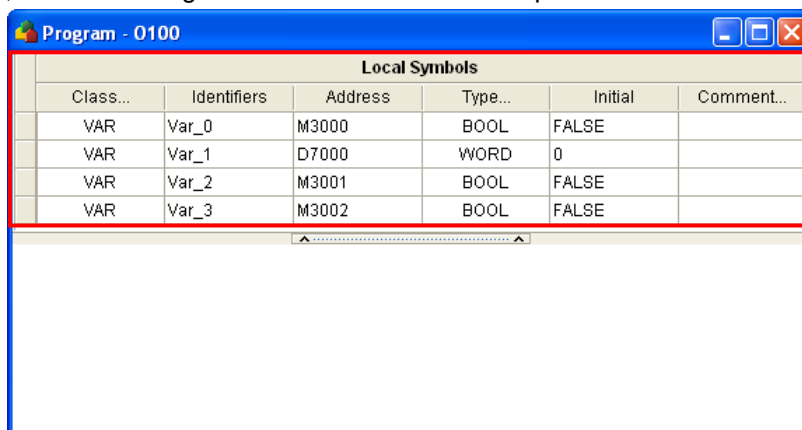

Figure 12-5 Creating local symbols in a program editing window
- (2) After a POU is created, PMSoft will automatically open a program editing window. The users can use the PMSoft toolbar in the window, and create local symbols in the local symbol table in the window, as shown in figure 12-5. Please refer to chapter 4 for more information.